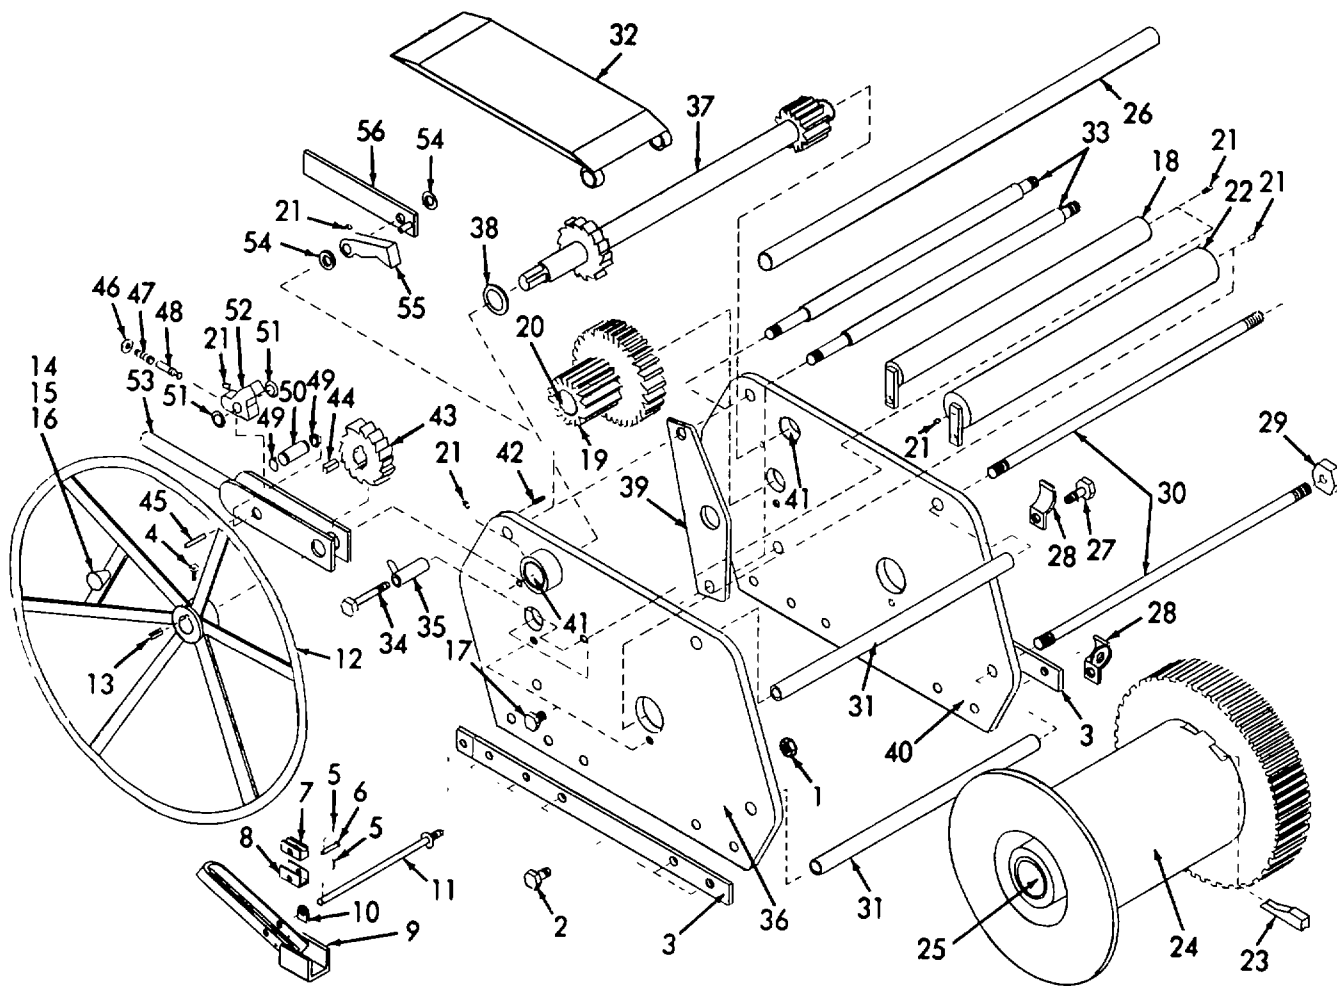

Figure 4-4. Anchor Winch, Removal, Disassembly, Reassembly, and Installation.
a. Removal. (Refer to figure 4-4).
- (1) Attach a sling to drum of winch. Attach a suitable lifting device to sling.
- (2) Remove ten nuts (1), ten bolts (2), and two deck brackets (3). Raise lifting device and remove winch.
- (1) Refer to figure 4-4 and remove setscrew (4) from handwheel. Remove two cotter pins (5), pin (6), block (7), shoe (8), pedal (9), strut (10), and shaft (11).
- (2) Remove handwheel (12) and key (13). Remove pin (14), knob (15), and washer (16).
- (3) Remove two bolts (17), shaft (18), and gear (19). Press bearing (20) out of gear (19). Remove grease fitting (21).
- (4) Install blocking under drum and remove drum shaft (22) by driving out with a rod and maul. Remove wedge (23) and drum (24). Press bearing (25) out of drum (24).
- (5) Remove lever extender (26), two bolts (27), and two brackets (28). Remove four nuts (29), two studs (30), two tubes (31), cover (32), and two shafts (33).
- (6) Remove bolt (34), stop (35), frame (36), shaft (37), washer (38), gusset (39), and frame (40). Press bearings (41) from each frame.
- (7) Remove pin (42) from frame. Remove wheel (43) and key (44).
- (8) Remove pin (45), washer (46), spring (47), guide (48), two retaining rings (49), shaft (50), two washers (51), ratchet dog (52), and ratchet lever (53).
- (9) Remove two washers (54), holding dog (55), and lever (56).
- (1) Refer to figure 4-4 and install lever (56), holding dog (55), and two washers (54).
- (2) Install ratchet lever (53), ratchet dog (52), two washers (51), shaft (50), two retaining rings (49), guide (48), spring (47), washer (46), and pin (45).
- (3) Press bearings (41) into side frames (36 and 40). Position side frames (36 and 40) into position and install gusset (39), washer (38), and shaft (37).
- (4) Install key (44) and wheel (43). Install pin (42) into side frame (36). Install stop (25) and secure with bolt (24).
- (5) Install two shafts (33), cover (32), two tubes (31), two studs (30), and four nuts (29).
- (6) Install two brackets (28) and secure with two bolts (27). Install lever extender (26).
- (7) Press bearing (25) into drum (34). Position drum (24) into place and install blocking under drum. Install shaft (22) by driving in with a rod and maul. Remove blocking and install wedge (23).
- (8) Press bearing (19) into gear (20). Install gear (20), shaft (28) and grease fitting (21). Secure shafts (22 and 18) with two bolts (17).
- (9) Install washer (16), knob (15), and pin (14). Install key (13) and handwheel (12).
- (10) Install shaft (11), strut (10), pedal (9), shoe (8), block (7), pin (6), two cotter pins (5), and setscrew (4).
- (1) Refer to figure 4-4 and attach a sling to drum of winch. Attach a suitable lifting device to sling and raise the winch. Move lifting device and position the winch over its mounting brackets. Lower the lifting device and remove the sling.
- (2) Install two deck brackets (3) and secure with ten bolts (2) and ten nuts (1).
- (3) Lubricate in accordance with paragraph 3-1, TM 55-1930-208-10.